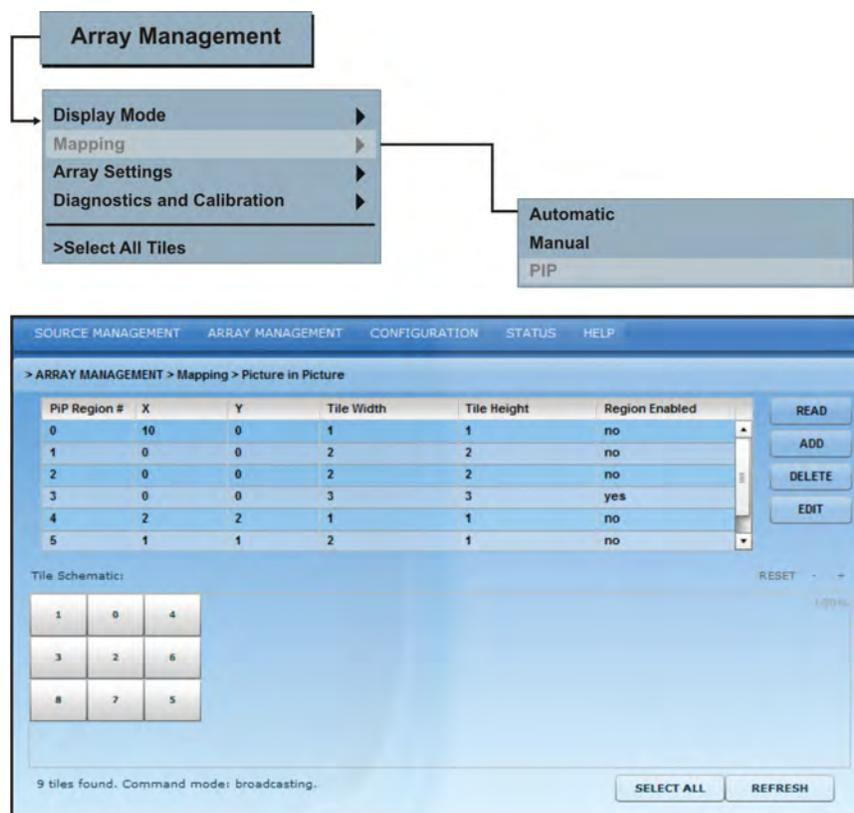

Figure 3-23 Picture-In-Picture
1. From the **Array Management** drop-down menu select **Mapping>PIP** (Figure 3-23).